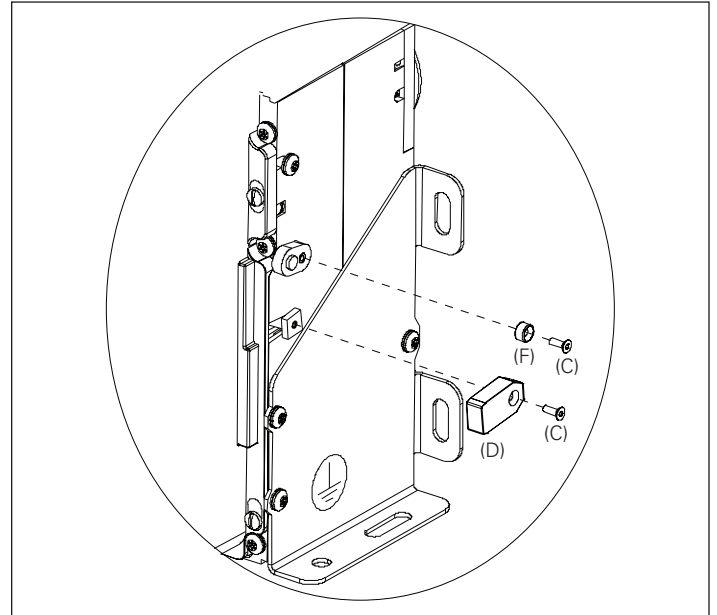
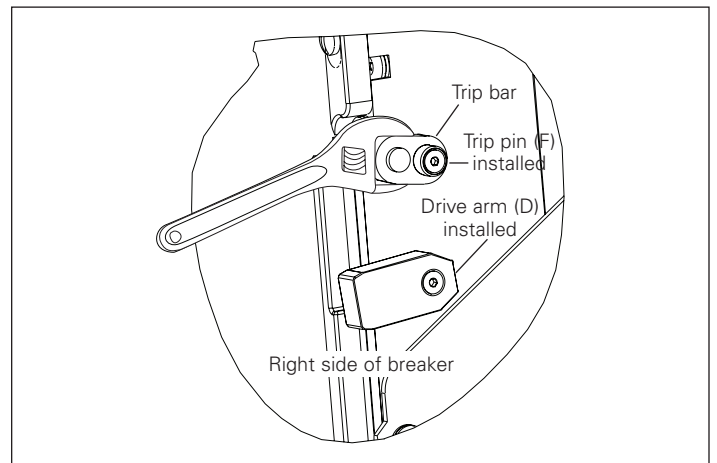

Figure 6. Details for Steps 4 and 5
Figure 7. Details for Steps 4 and 5
Install the drive arm (D) to the end of the pole shaft using one M3 x 8 mm flathead screw (C) as shown in **Figure 6** and **Figure 7**. Apply Loctite® Blue 242 to ensure that the screw cannot loosen during operation. The drive arm should be oriented as shown in **Figure 6** and **Figure 7**. Torque to 0,3–0,6 N·m (3–5 in-lb).
Install the trip pin (F) to the trip bar using an M3 x 8 mm flathead screw (C) while holding the trip bar with an adjustable wrench as shown in **Figure 6** and **Figure 7**. Apply Loctite Blue 242 to ensure that the screw cannot loosen during operation. Torque to 0,3–0,6 N·m (3–5 in-lb).